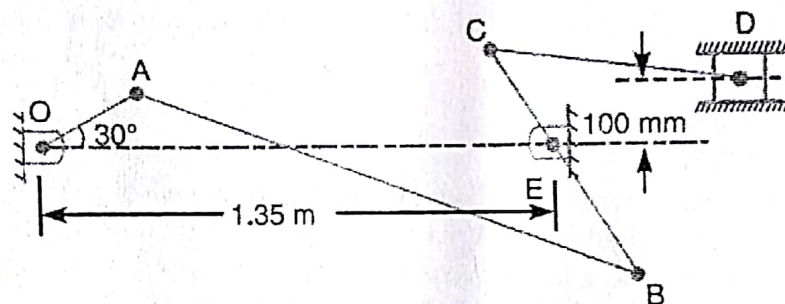

Figure 1
- Q1. A mechanism, as shown in **Fig. 1**, has the following dimensions: $OA = 200$ mm; $AB = 1.5$ m; $BC = 600$ mm; $CD = 500$ mm and $BE = 400$ mm. If crank OA rotates uniformly at 120 RPM clockwise, find